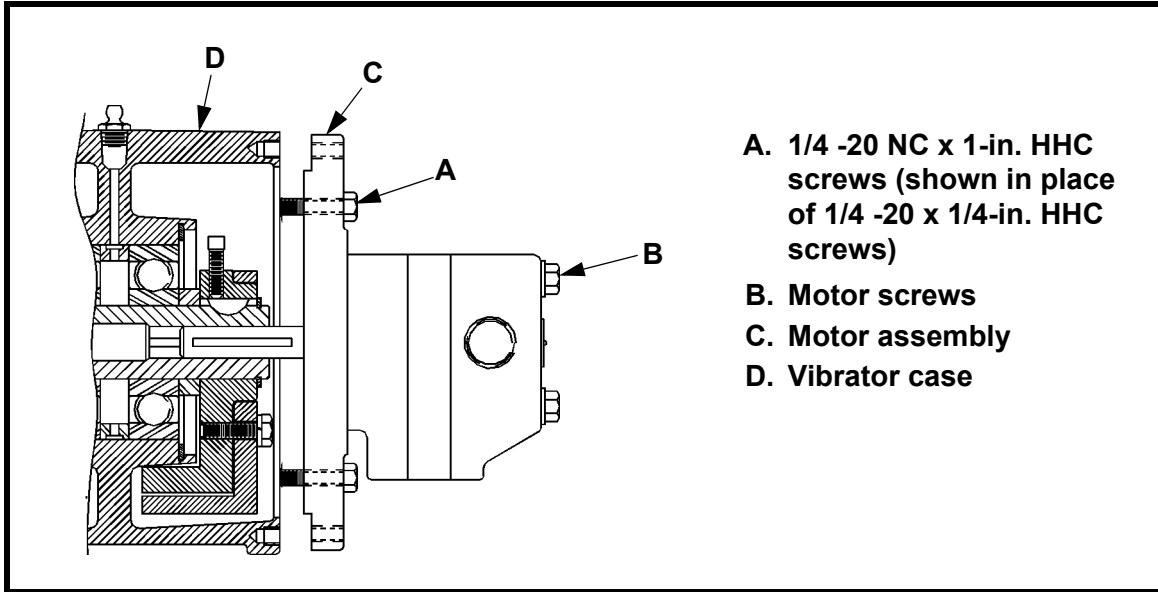

Figure 9. Removing Motor/Flange Assembly
- a. See Figure 9. Remove six 1-in. (25 mm) long hex head cap screws (A) from motor side of unit.
- b. Loosen four motor screws (B) one turn.
- c. If motor assembly (C) is tightly engaged with case (D), remove the two 1/4-in. (6 mm) long hex head cap screws and replace them with two of the 1-in. (25 mm) long hex head cap screws removed in step 3.a.
- b. See Figure 9. Rotate adjustable eccentric weight to proper setting according to Appendix. Move weight to higher number to produce less force (i.e., highest number is minimum setting and lowest number is maximum setting).